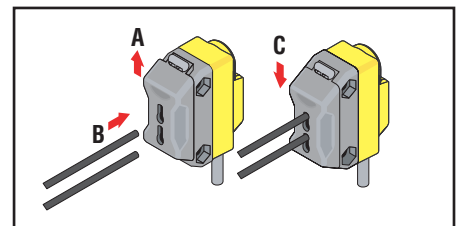

Figure 2. Installing plastic fibers
- A) Unlock the fiber gripper as shown in Figure 2. If 0.25 mm or 0.5 mm core fibers are being used, slide the small fiber adapters onto the fibers, flush with the fiber ends.
- C) Slide the fiber gripper back to lock, as shown in Figure 2.